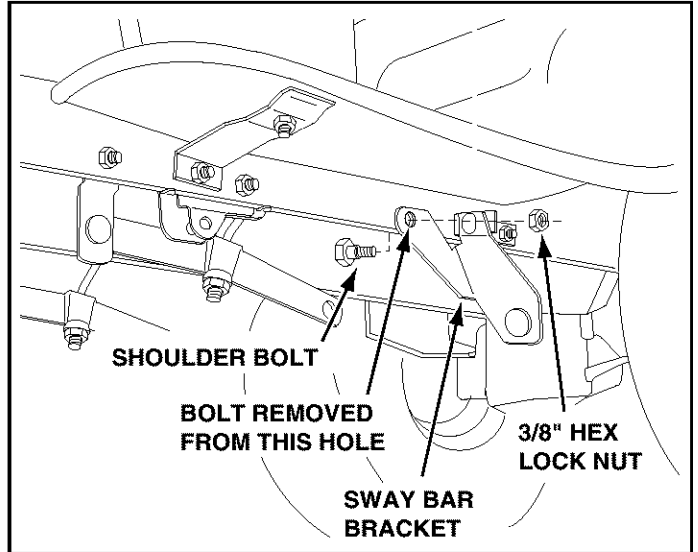

FIGURE 9 LEFT SIDE VIEW
- Remove the bolt, washer and nut which fasten the sway bar bracket to the L.H. side of the tractor frame. Replace with a shoulder bolt and a 3/8" hex lock nut as shown in figure 9.